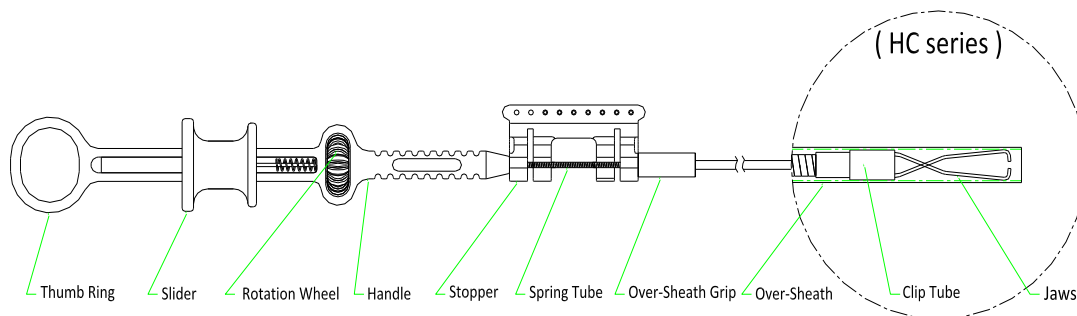

Figure 1.1: The initial state of the HC series of the product
1.1. Inspect the package to make sure it is intact. Remove Single Use Hemoclip from the package, as shown in Figure 1.1